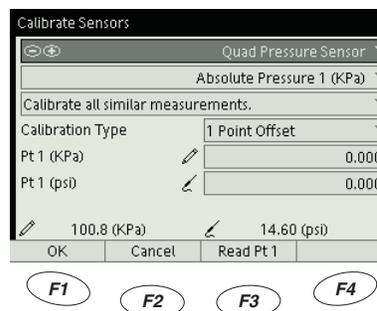

Figure 4: GLX calibration window
3. From the menu, select **Calibrate** to open the **Calibrate Sensors** window (see Figure 4).